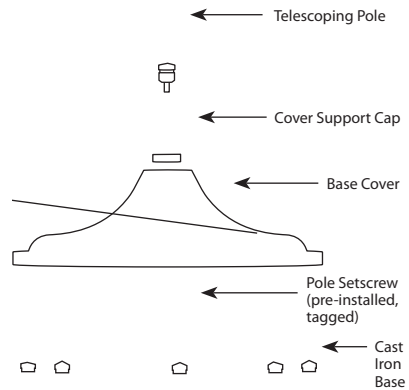

FIGURE 1
1. Lower the Base Cover over the Cast Iron Base. See Figure 1.
6. Use pliers or an adjustable wrench to tighten the Pole Set-Screw until it seats firmly against the Telescoping Pole. See Figures 1 and 2.